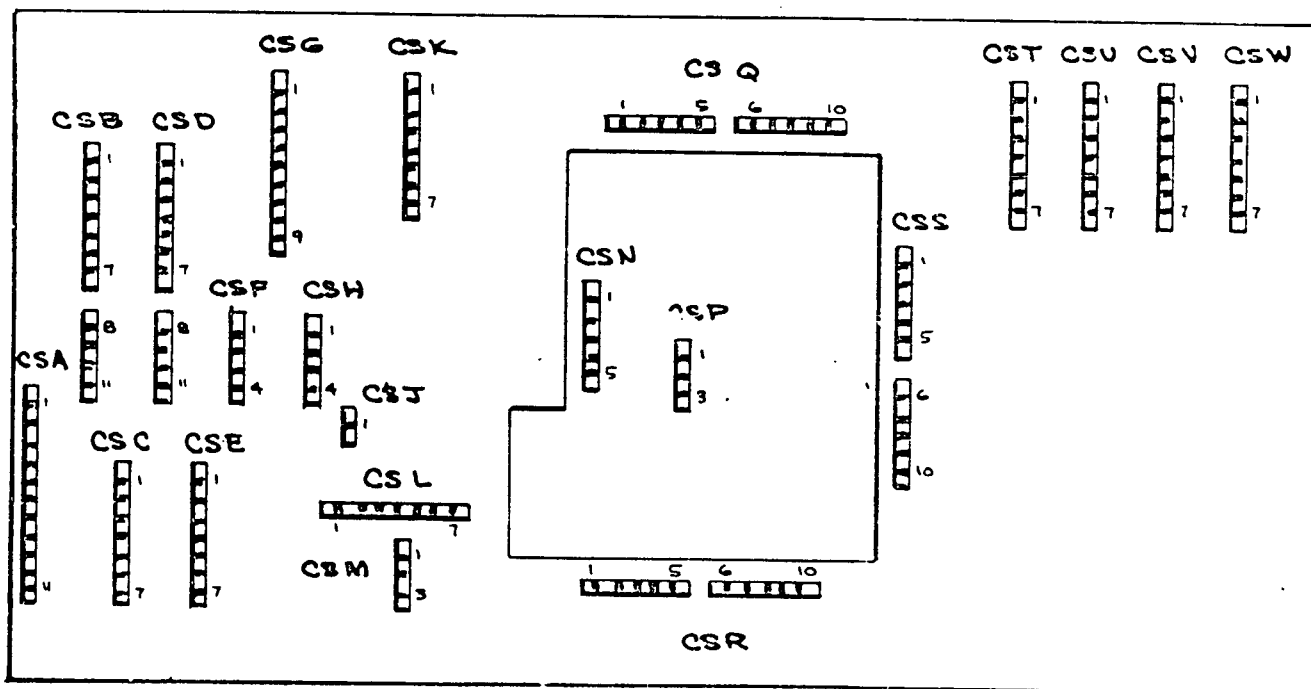

FIG. 1
(Refer to Fig. 1)
- () 17. R230, a 25k 7W resistor, between CSB-2 and CSD-2 (see Fig. 1 or 1A).